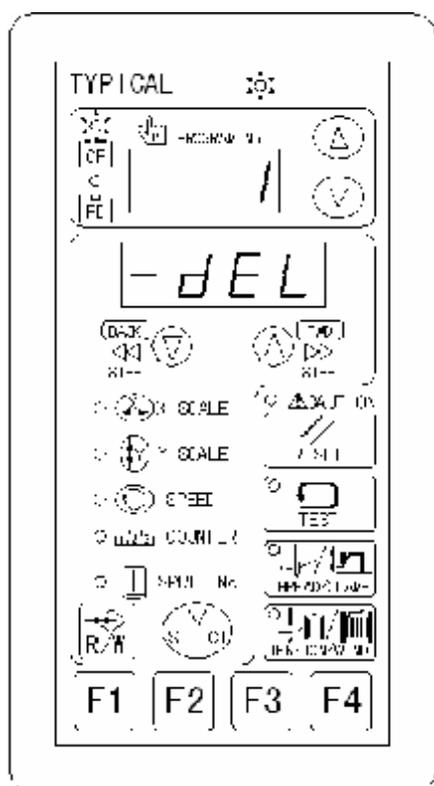

Fig. 6-24
1. In sewing speed set-up interface, simultaneously press  and  keys, to enter pattern deletion interface (as shown in Fig. 6-24).